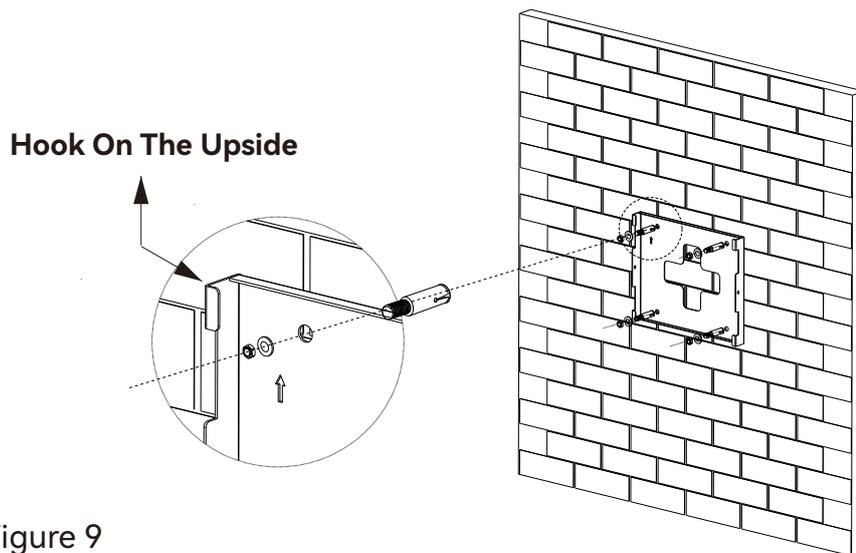

Figure 9
- Using the mounting frame as a template, and drill holes as shown in Figure 9.